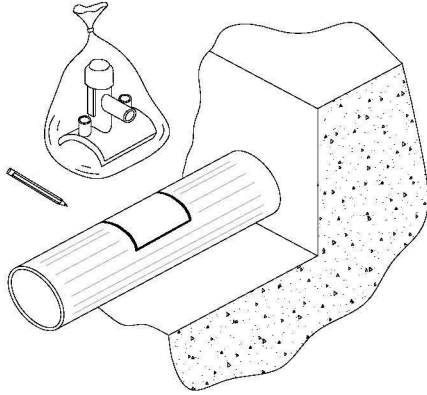

Figure A5 - Mark around the fitting
4. With the fitting still in its protective bag, place the fitting on the proposed installation point and with a marker pen roughly mark a line around the base area of the fitting plus 25mm excess on all sides. Figure A5.